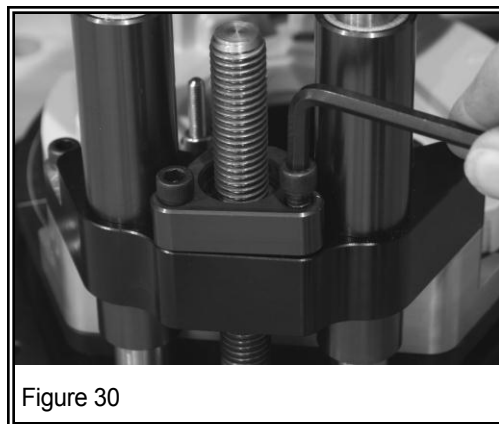

Figure 30
2. Remove the four 1/4" x 1" cap screws from the carriage nut cover (Figure 30), then remove the cover and O-ring.
7. Reinstall the O-ring and carriage nut cap, then securely fasten the carriage nut cap using the screws removed in Step 2 (see Figure 30).